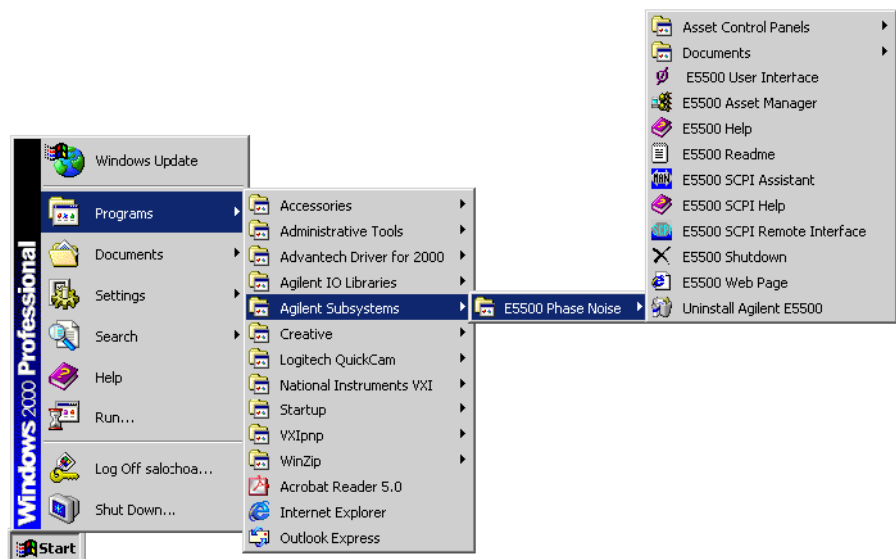

Figure 1-32 Navigate to E5500 User Interface
- 1 Referring to Figure 1-32, navigate to the E5500 User Interface.